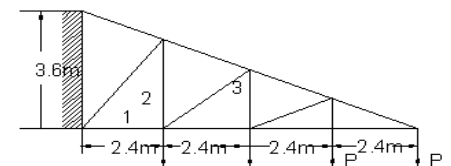

fig.6.9
3. Using the method of sections, find the axial forces in each of bars 1, 2, 3 of the plane cantilever truss as shown in fig 6.9